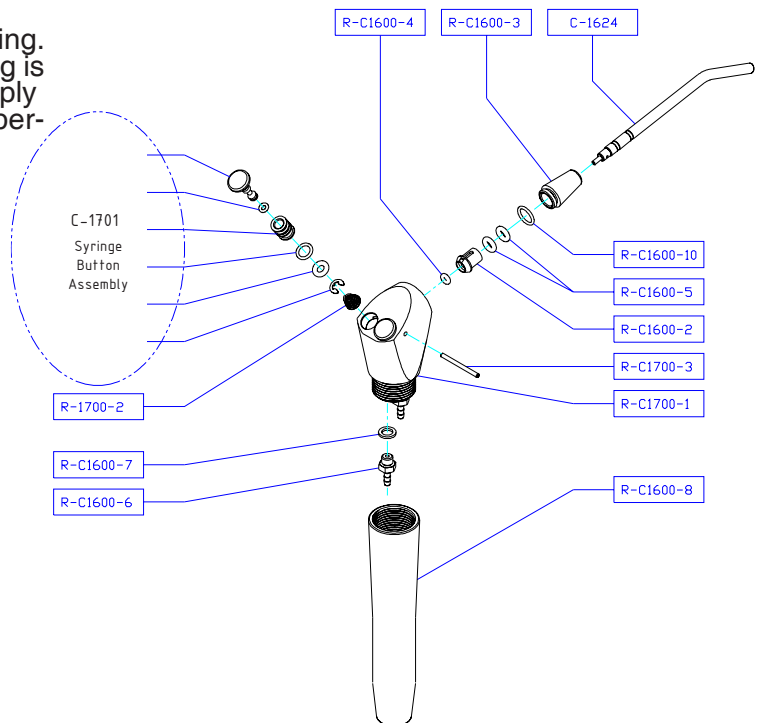

Figure 2. Syringe.
2. Replace the tip by inserting a new one into the tip socket, and firmly pushing into place until you feel it softly "pop" into place. To ensure it has been fully inserted, the uppermost small groove on the tip shank must be just visible over the end of the socket. *See Figure 2*
**Solution:** Replace the button assembly # C-1701 (See figure 2). Turn water and air supply off. Depress air and water buttons on Syringe to relieve residual pressure. Hold both buttons down and use a paperclip to push cross pin out of syringe head. Gently remove button from head, being careful not to lose conical spring beneath. To install new button, ensure that conical spring is seated with the small end pointing up. Gently push into place and hold both buttons down firmly while re-inserting cross-pin.
**Solution:** Ensure tip is properly and fully inserted. If so, replace O-ring #R-C16004 (See Figure 2). Twist conical tip socket assembly (R-C21600-3) off of syringe head to access this O-ring. When re-installing tip socket assembly, hand tighten only. If tip cannot be fully inserted, then socket is too tight.